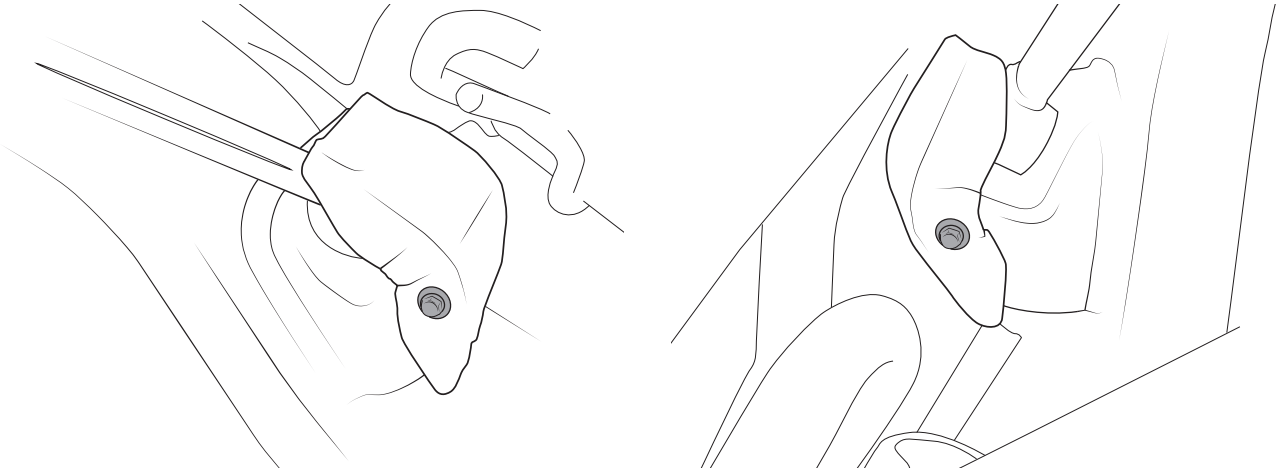

Figure 6
21. Remove the upper control arm lower heat shield bolts (fig 6).